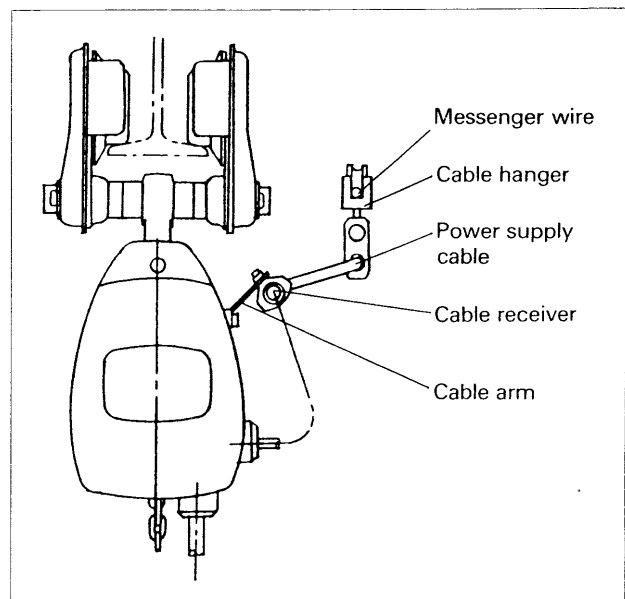

Fig. 10
- (1) Provide messenger wire (3 to 6mm dia. steel cable) along the beam, and make the power supply cable run with the cable hangers through the messenger wire so that it would not be twisted.
- (2) In case hoist is connected with plain trolley or geared trolley, provide messenger wire slightly outside the cable receiver of the hoist (See Fig. 10).